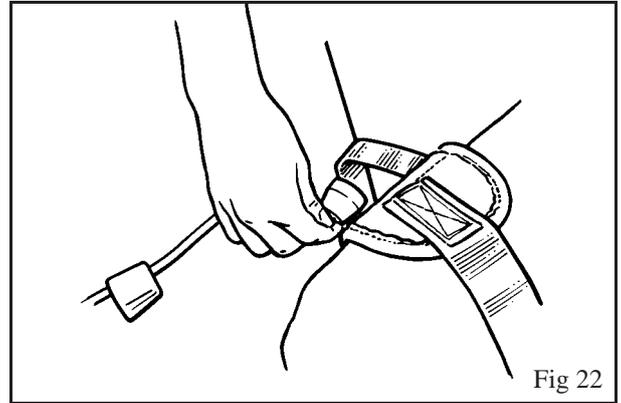

Fig 22
1. Identify the attachment strap on each leg section of the sling and attach the right hand attachment cord to the left strap, repeat for the other side. (See Fig 22 and Fig. 17 for attachment of the cords)